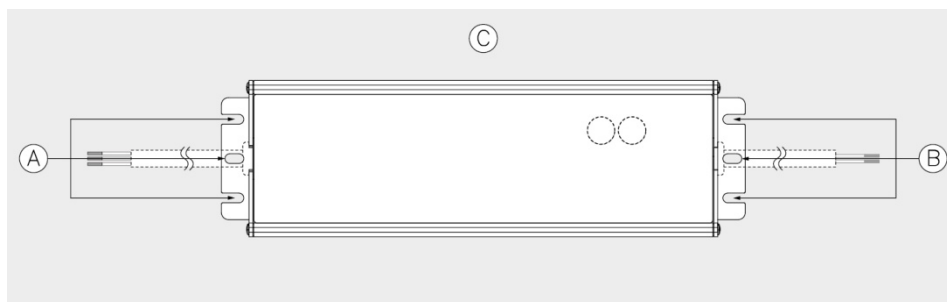

Fig. 3 Mounting Hole Locations
- Ⓐ, Ⓑ | Mounting holes for the LED driver (device). There are 3 mounting holes at either end of the device (locations Ⓐ and Ⓑ in Fig. 3). The device shall be mounted using a minimum of 2 out of the 3 mounting holes on both sides. Mounting shall be done using M4 screws with minimum length of 5mm. If customer's end system or panel where the device is mounted does not have screw threads, please use suitable metal screw and nut to secure the device.